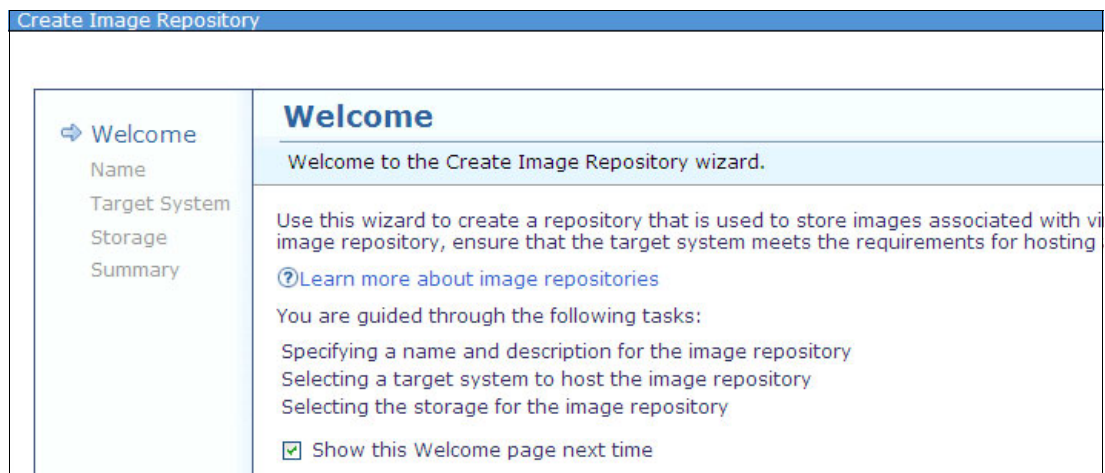

Figure 9-50 Create Image Repository Welcome window
3. You are redirected to the Welcome window as shown in Figure 9-50. Click **Next**.